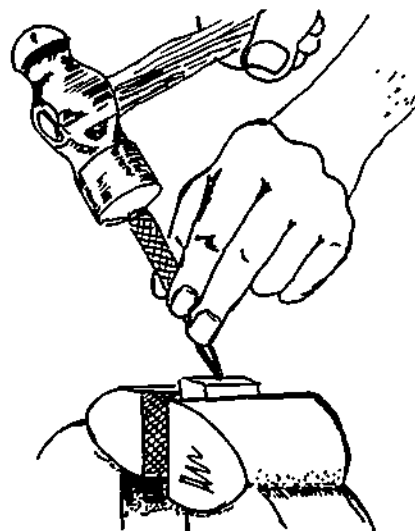

Figure 2-73.
**Prick Punch and Hammer Method** If the tap is broken off below the surface of the metal, it can sometimes be removed by using a prick punch and hammer. By rapping the punch at an angle that forces the tap to turn counter clockwise, it may loosen sufficiently to be removed (Figure 2-73).